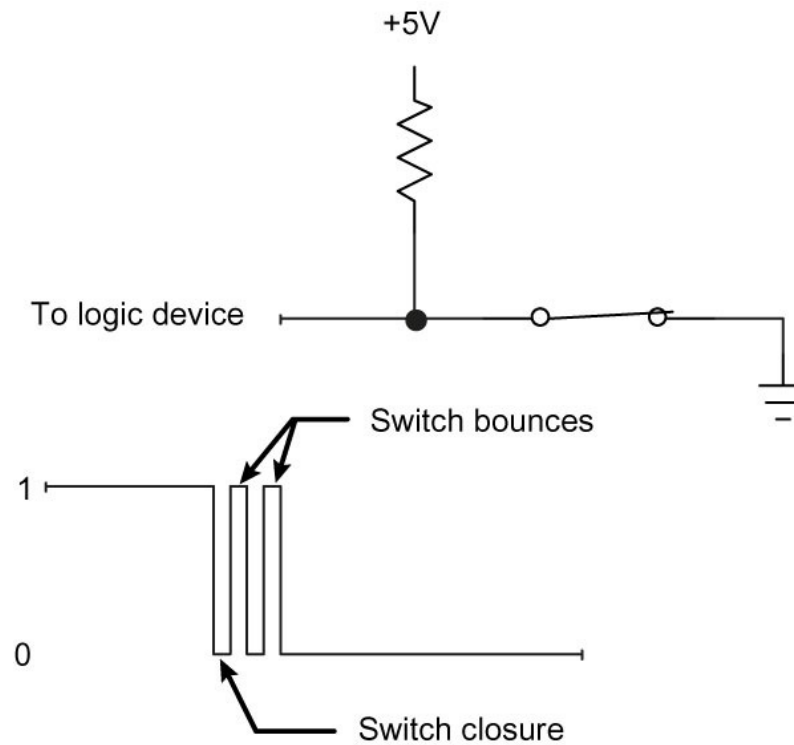

Figure 3-3
**CAUTION:** If you plan to connect simple on-off switches or pushbuttons to an input port, you may need to “debounce” the switch contacts. When a pair of mechanical contacts closes, they have a tendency to bounce for a short time. While doing so, the contacts may open several times as shown in **Figure 3-3** for a closing SPST switch. Although these bounces end within a few milliseconds, circuits may detect them as several switch closures in rapid succession. In a double-throw switch, the movable contact DOES NOT bounce back and forth between the two stationary contacts; it simply opens and closes the connection at the contact it was switched to.